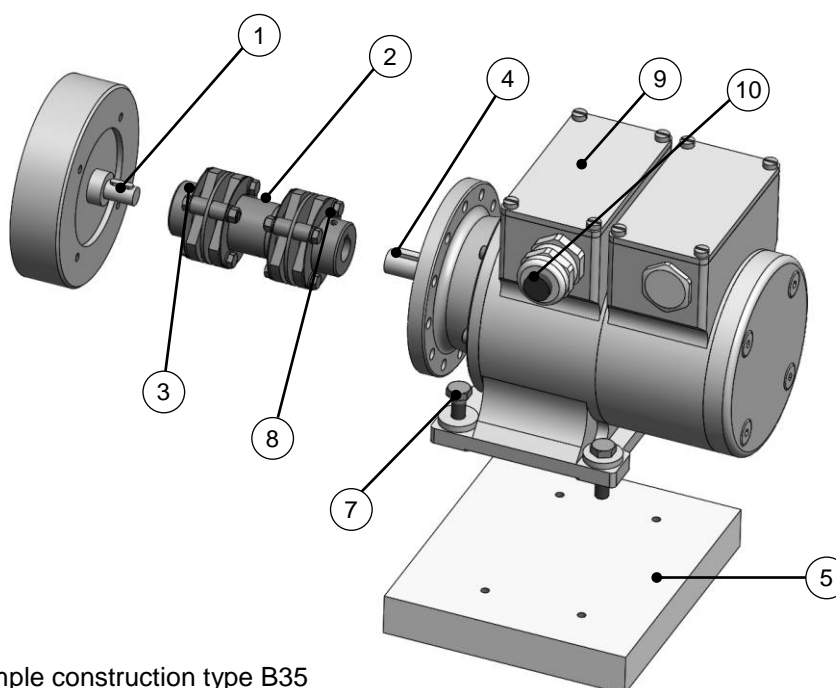

Fig. 3-2 Example construction type B35
1. Open the terminal box cover (9) (Fig. 3-2).
2. Remove the cap of the cable gland (10) (Fig. 3-2).